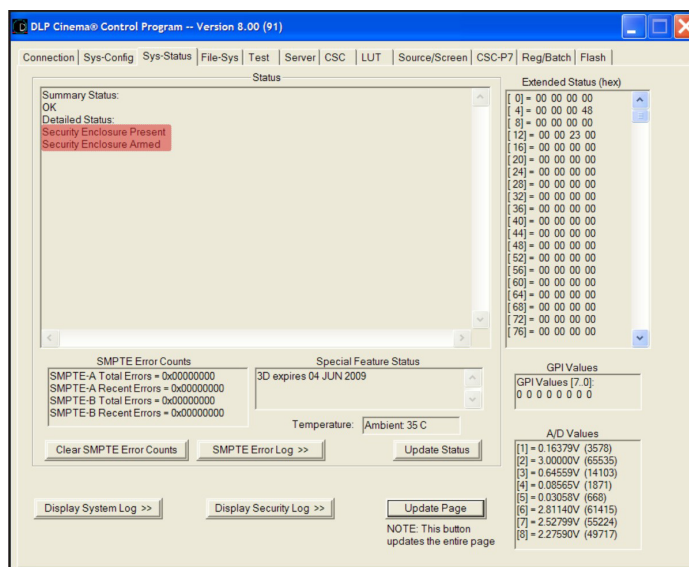

Figure 6 Status Window - Successful Install Messages
3. Click the **Sys-Status** tab and check the **Status** window (**Figure 6**) for the following entries: